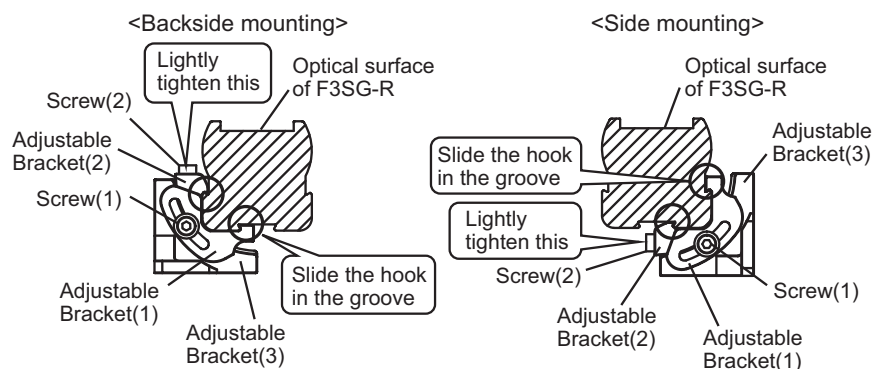

Fig. 2
3. Slide the hooks of the Adjustable Bracket (1) and the Adjustable Bracket (2) in the grooves of the F3SG-R housing. Lightly tighten the Screw (2). (Fig. 2)